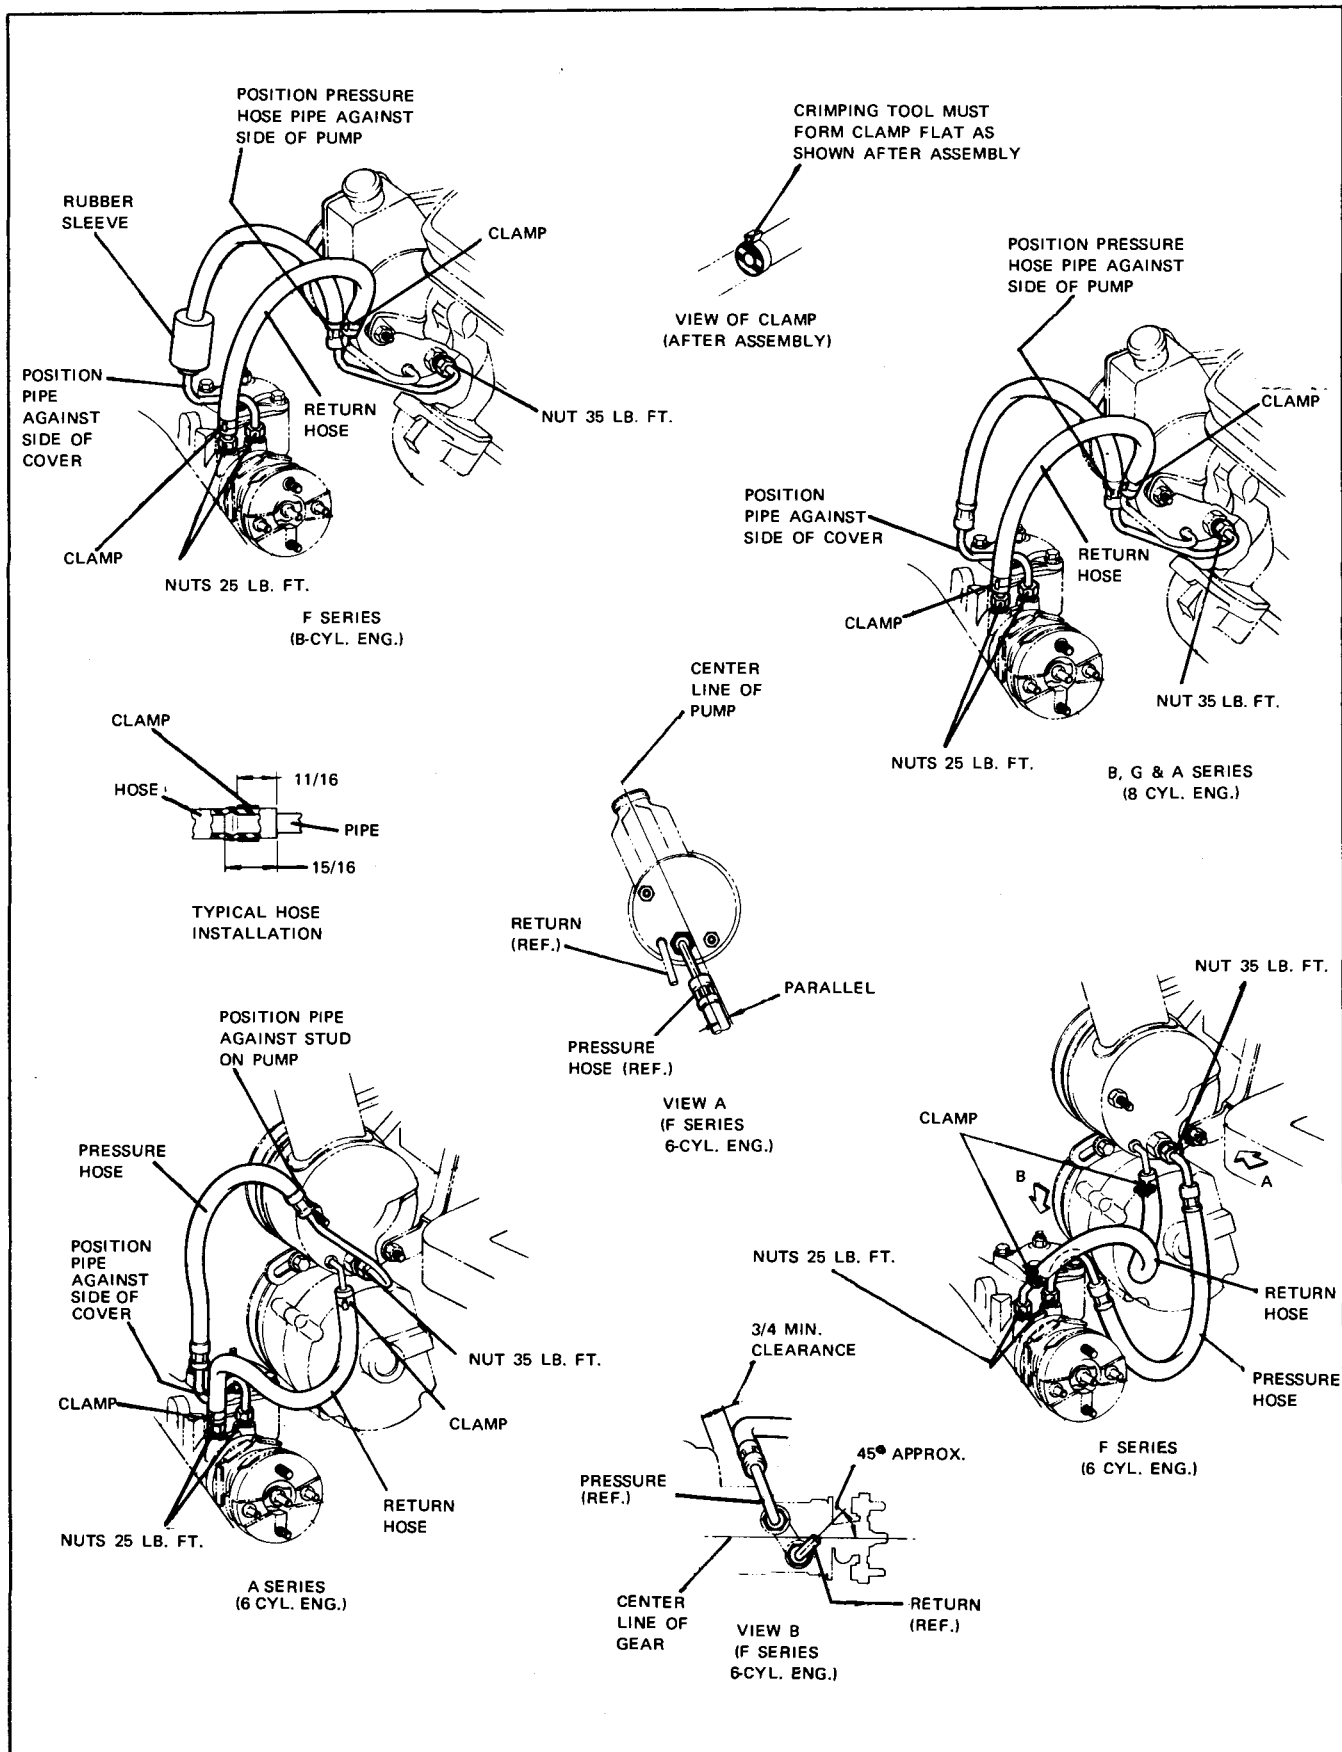

Fig. 9-66 Installation of Power Steering Hoses (Except X Series)
4. Connect pressure and return hose assemblies to gear assembly and tighten to 25 lb. ft. torque (Figs. 9-66 and 9-67).